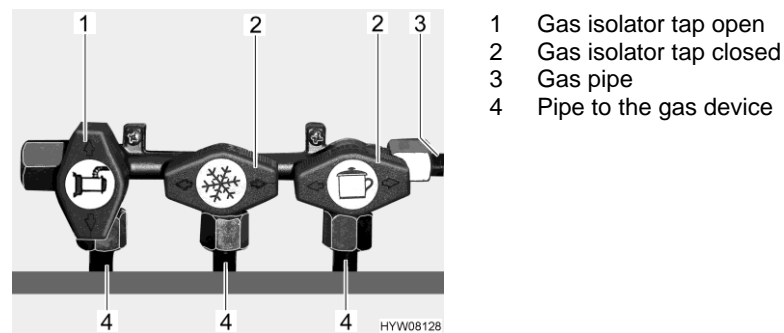

Fig. 127 Gas isolator taps position (example)
- Position the gas isolator tap of the corresponding gas device parallel (Fig. 127,1) to the pipe (Fig. 127,4) leading to the gas device.
- Position the gas isolator tap of the corresponding gas device transverse (Fig. 127,2) to the pipe (Fig. 127,4) leading to the gas device.